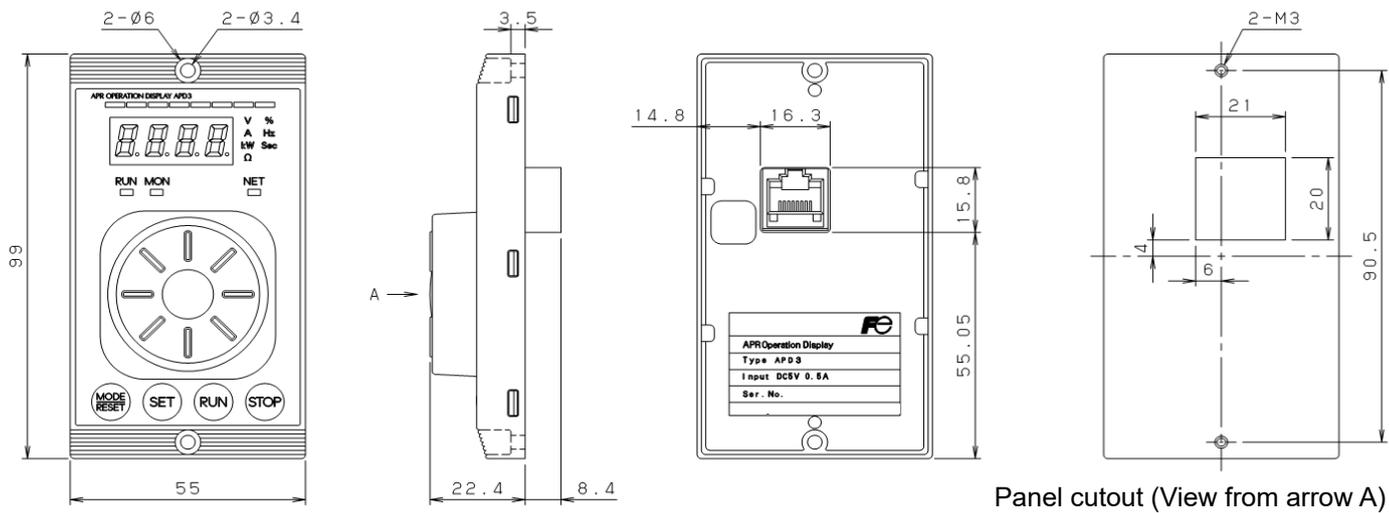

Fig. 3.2. Position of holes for mounting screws and panel cutout dimensions
- [1] Cut out the panel to which the APD3 is to be mounted. (See Fig. 3-2.)